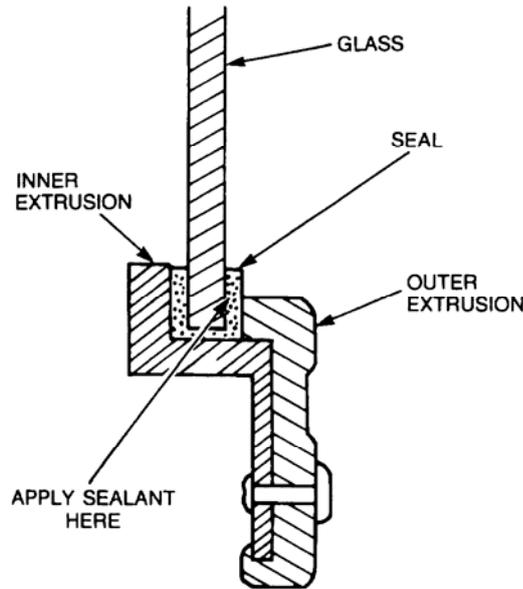

Figure 36 Rear Window Frame – Applying Sealant
- i.** Apply a thin bead of suitable sealant to the rear face of the rear window frame flange (refer Figure 36).